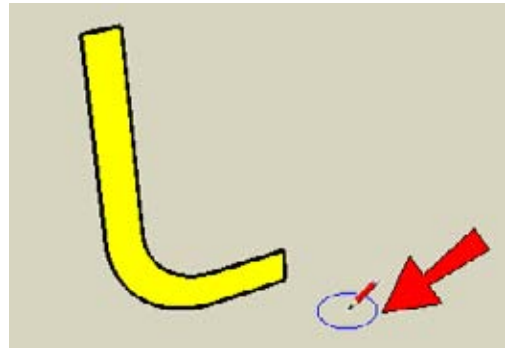

Figure 2-54
- Activate Circle. Because the circle needs to be flat (red-green plane), keep the cursor away from other objects, so that the preview circle stays blue (Figure 2-54). Press and hold Shift to lock this orientation.